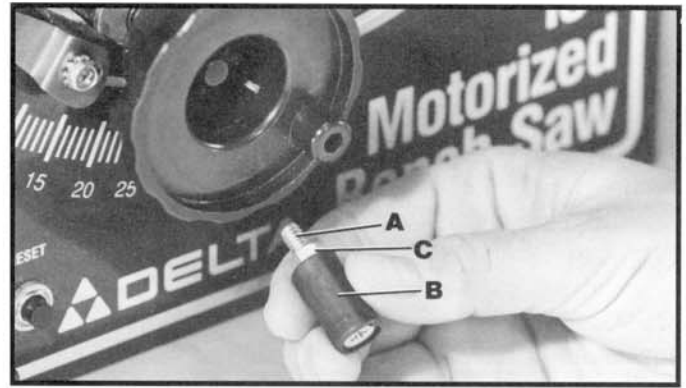

Fig. 2
1. Insert the 1-1/2" long phillips head screw (A) Fig. 2, into the large end of handle (B) and lightly tighten nut (C) onto screw, as shown.